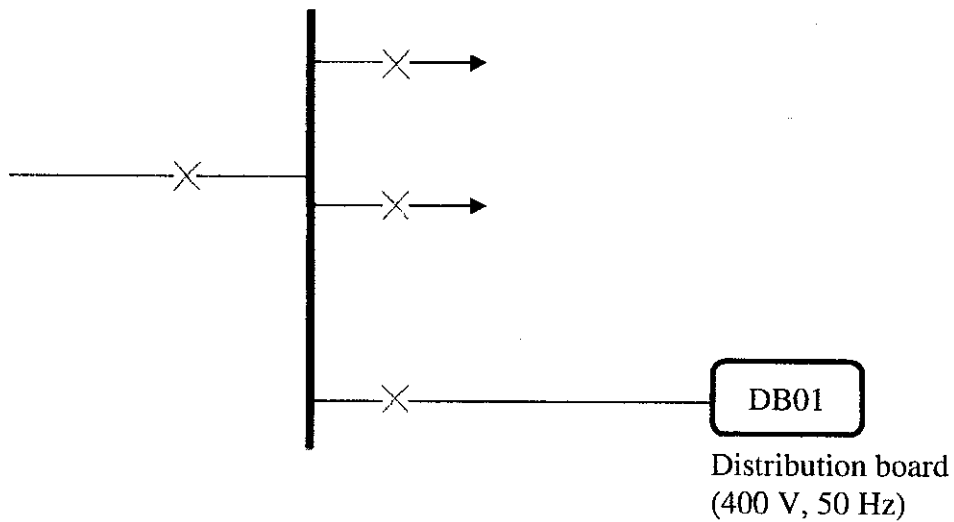

Figure Q1
- d) Part of a distribution system of a certain installation is shown in Figure Q1. Distribution board (DB01) has to feed following loads.